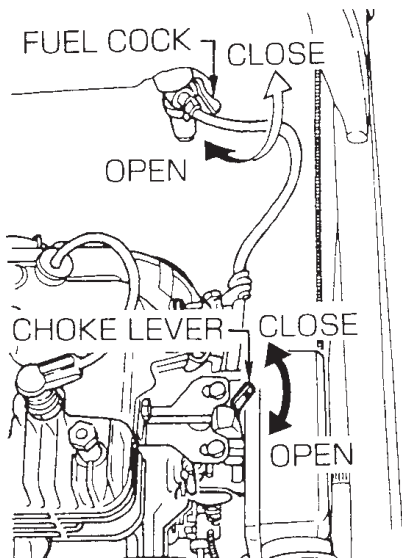

Figure 5. Fuel Cock and Choke Lever
1. Open the fuel shut-off valve by moving the **fuel cock** lever to the **open** position (Figure 5).
3. Close the choke lever (Figure 5). Turning the choke lever 90 degrees clockwise closes the choke. In cold weather, start the unit with choke fully closed. In warm weather or when the engine is warm, the unit can be started with choke halfway or completely open.
5. If engine fails to start, move the choke lever (Figure 5) to the half open position to avoid flooding.
2. Close the fuel shut-off valve by moving the fuel cock lever to the **CLOSED** position. See Figure 5